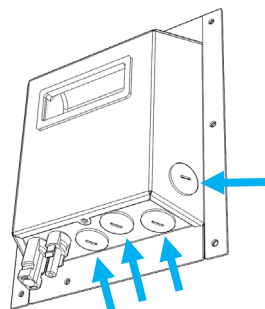
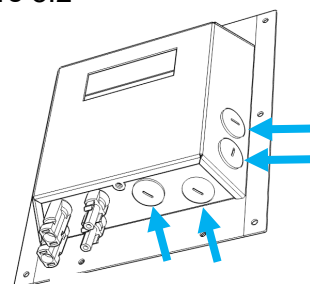

Figure 8.2
Figure 8.3
2. Remove the appropriate caps on the wiring cover to support the installation of the conduit tube. Each wiring cover has 4 knockouts, figure 8.2 represents the 24K unit and figure 8.3 represents the 36k unit. Each knockout is a 1/2" nominal trade size.
- a. The 24k indoor unit (Figure 8.3) supports up to three indoor units (A, B, C), while the 36k outdoor unit (Figure 8.4) supports up to four indoor units (A, B, C, D). When connecting the signal cables to the outdoor unit, connect the first indoor unit to the terminal block marked 'A', the second to 'B', and so on. Each wire within the signal cable is labeled 1, 2, 3, and G, along with color codes (see table below). Match the individual terminals for areas A, B, C, and D.